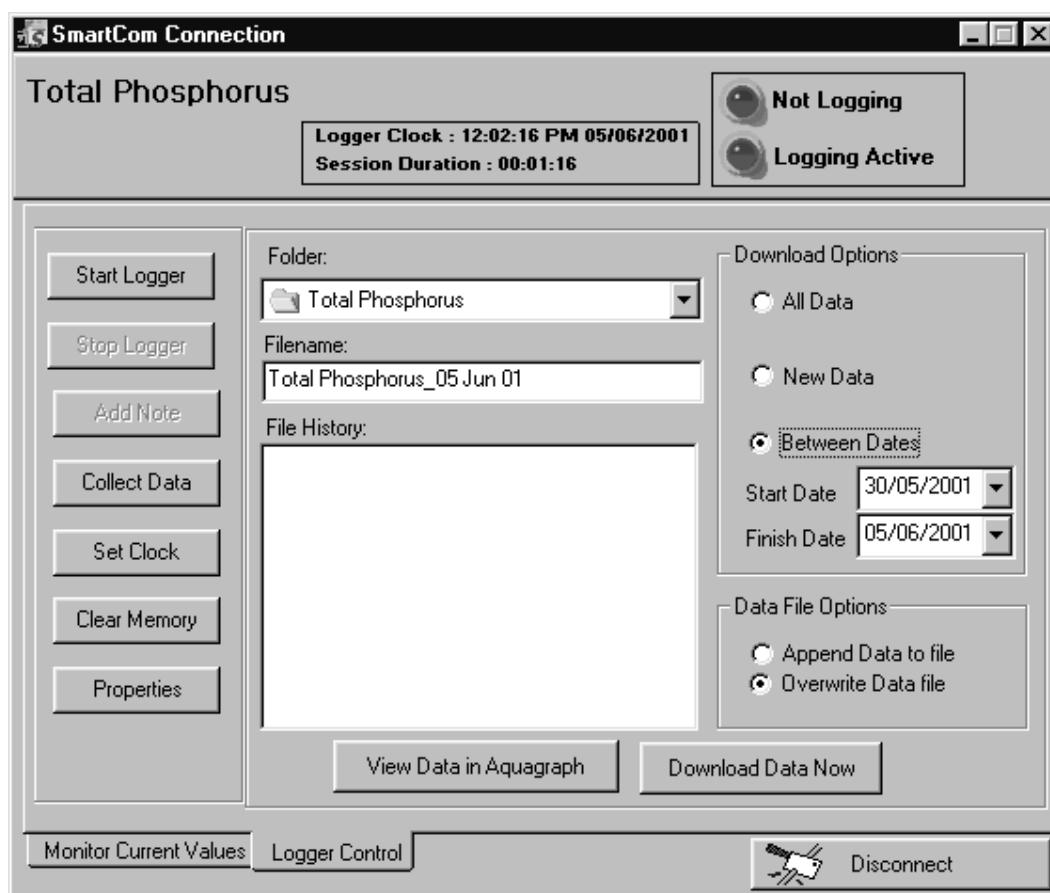

Figure 9.2: The Collect Data window
2. Select *Collect Data*. The Collect Data window is shown in figure 9.2.